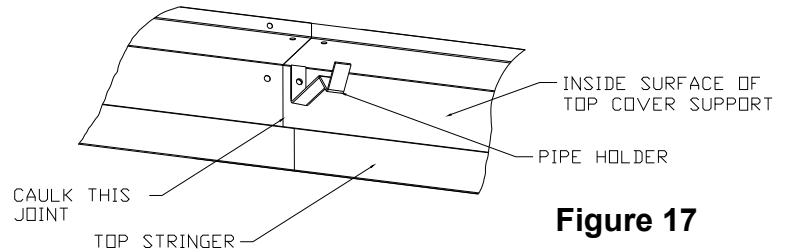

Figure 17
- Caulk the seams between the top cover support sections as shown in Figure 17.